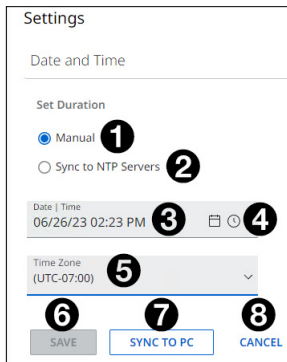

Figure 9. Date and Time box
1. Select **Sync to NTP Servers** (see figure 9, ②).
1. Select the **Manual** radio button (see **figure 9**, **1**, on page 19).
3. Click **SAVE** (see **figure 9**, **6**) to save the changes or click **CANCEL** (**8**) to exit the datepicker without saving the changes.